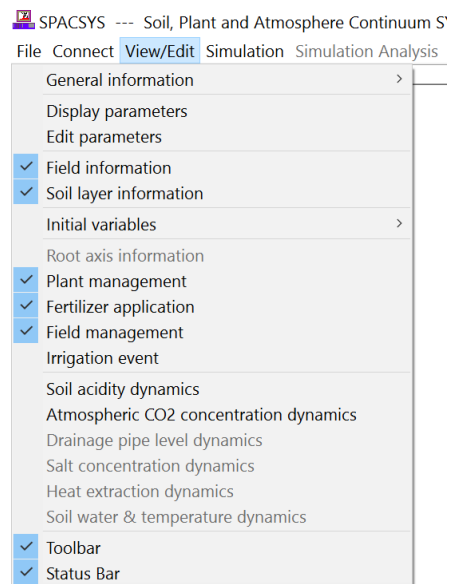
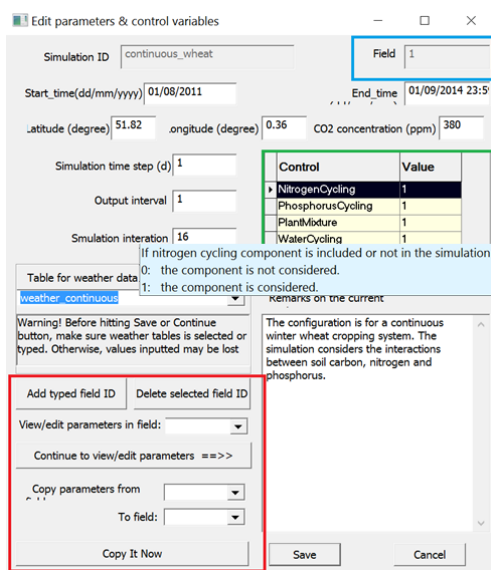
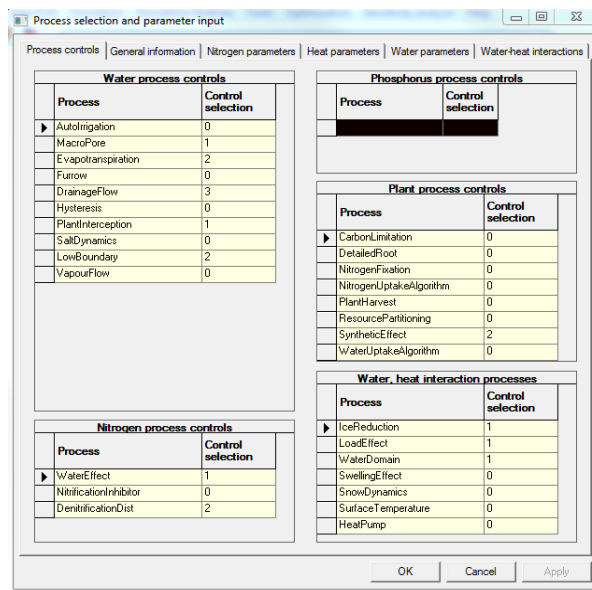

Figure 13. Procedures to view/edit parameters for a selected simulation
Figure 15. Editing parameters
Figure 14. select processes and edit parameter values
To view/edit a simulation, the simulation ID must be chosen from the simulation identification list. After a simulation ID was chosen, click Edit parameters under the Edit/review menu (Figure 13). There is a real-time help for each parameter/variable when the cursor is put on the parameter location. To get help on a control variable or a parameter located in the datagrid (table-alike), just put the cursor onto the row (not in the column of value) where the variable/parameter is shown and double click. To make sure the changes in the datagrid in effect, click anywhere else after a change to a control/parameter is made. The practice is applied to all datagrids through data edition.
If only the parameters configured are viewed for the chosen simulation ID, the function of Display parameters shown in item 2 in Figure 13 can be clicked. If some parameter values would be modified, the function of edit parameters can be executed. A child Windows pops up (Figure 14). Users can change any information but the simulation ID from popped windows. There are some information within three coloured rectangulars should be noted in Figure 14.
After a field ID is selected from the drop-down list and click the “continue to view/edit parameters ==>” button with the red rectangular in Figure 14, the child windows of process selection and parameter input in which there are six tabs pops up (Figure 15). **It is highly recommended to determine all control variables in the process controls tabs first.** The values of the control variables affect which parameters in the rest of tabs and if extra information are required. All controls in the process control tab should have an effective value. Otherwise, those without any valid value will be treated as zero when running the simulation. Again by double clicking the head of a row in a datagrid, a brief help text will appear. The range of the value for a control can be found from the real-time help. All parameters appeared in other tabs should have a value except some of them in the tab of Nitrogen Parameter. Under the tab, parameters of dissolved fraction from fresh organic matter, humus fraction from fresh OM and potential decomposition rate of fresh OM can leave empty depending on how many fresh organic matter pools are defined in the configuration. For example, assuming that only one type of fresh organic matter pool is applied, then those three parameters with _1 as an affix should have values and others are empty.
Detailed information on each control variable or parameter can be found from the technical manual. After all changes have been made, click the OK button in the window, which closes it and return to it parental windows (Figure 14). If there is any change has been made, then click the Save button. Otherwise, click the Cancel button.
Which information is required for the simulation can be found which functions are ready to be clicked under the View/Edit in the menu bar (item 2 in Figure 13). In this example shown in the figure, some information has been stored in the tables in the database (indicated as checked item). Those greyed items mean the information would not be expected for the simulation. Although some items are activated in the example (e.g. irrigation, initial plant status), there might be unnecessary for the simulation. For example, no irrigation is available for the simulation. There is no plant/crop growing in the field at the time when it starts to simulate. As rule of thumb, the following information should be presented in each simulation: field information, soil layer information, initial water, heat conditions and initial pool sizes of carbon and nitrogen.